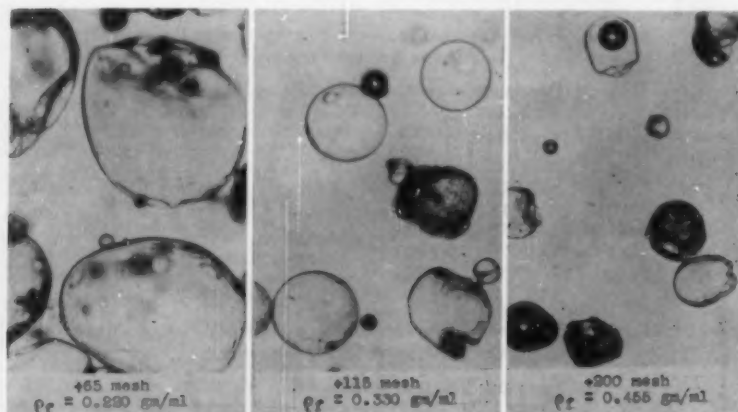

Figure 9. Spray-dried coffee extract showing variation of wall thickness with particle size.
1. The dried particles in all cases were of smaller diameter than the original spray droplets, although a film-forming material, such as coffee, has usually been thought to give particles larger than the original spray droplet. The film-forming tendency of coffee is shown in the photomicrographs in Figure 9.
2. The effect of drying temperature on particle density is pronounced. For a range of temperatures from 324 to 513° F. particle density can vary two- to three-fold. Density in itself is a more striking effect than particle diameter, since particle diameter varies only as the one-third power of particle density (Equation (5)).
The dried particles were suspended in a matrix of USP grade, extra heavy mineral oil. Entrapped air was partially removed by placing the suspended particles under a vacuum. However, it was not possible to remove all the entrapped gases. In Figure 9 the optical sections are taken at the equatorial planes of the particles.